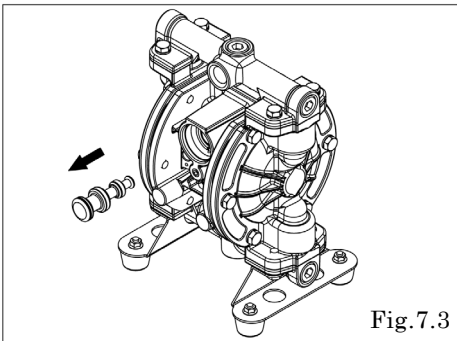

Fig.7.3
- Remove spool assembly by pushing it from Cap A side (the side without reset button). [Fig.7.3]